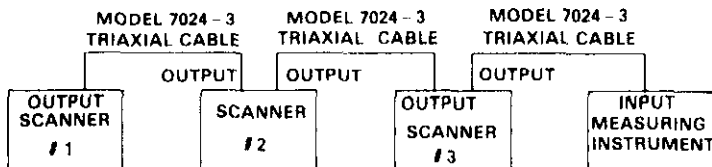

Figure 1. Typical Multi-Scanner Connection
- B. The input connectors for channels 1 through 4 are located at the rear of the card. The two OUTPUT connectors permit multiple Model 7058's to be connected together. For instance a 30 channel scanner system may be connected as shown in Figure 1.